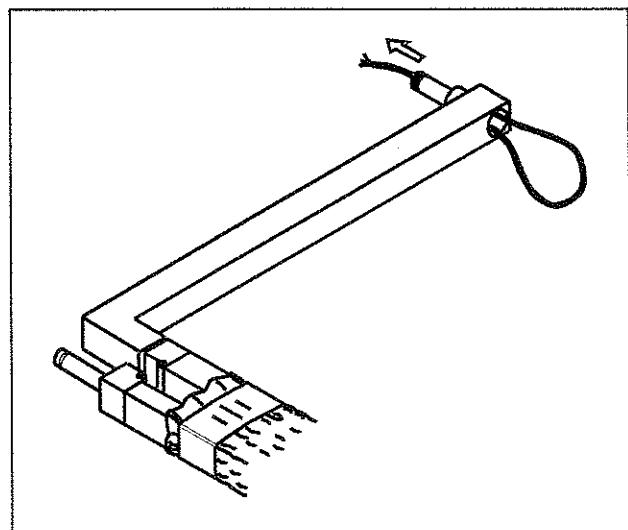

Figure 10 Arm assembly - 3
- c) Loop cable back into rotation pivot (Figure 10).